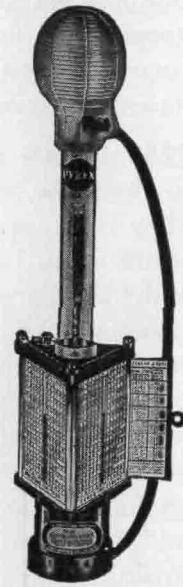

FIG. 14-7. Hydrometer to test antifreeze-solution strength. (E. Edelmann and Company)
Antifreeze materials are mixed with water in various proportions according to the expected temperature. The lower the temperature, the higher the percentage of antifreeze material in the solution necessary to prevent freezing of the mixture. Figure 14-7 illustrates a hydrometer used to measure the strength of the antifreeze solution.
9. *Testing antifreeze-solution strength.* The strength of the antifreeze solution must not be below that required to furnish adequate protection in the lowest temperatures expected. The strength of the solution is tested by use of a special antifreeze-solution hydrometer (Fig. 14-7), which measures its specific gravity, or heaviness. The so-called "permanent" antifreeze compounds (ethylene glycol) are heavier than water, while alcohol-base antifreeze compounds are lighter than water. The specific-gravity reading will determine what percentage of the solution is water and what percentage is antifreeze compound. Then, by reference to a chart, the lowest